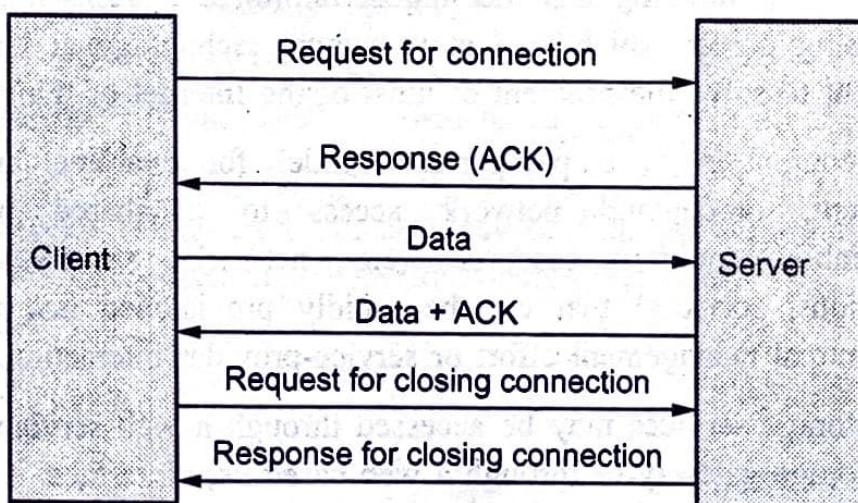

Fig. Q.10.3 Exclusive pair model
- Fig. Q.10.3 shows exclusive pair model.